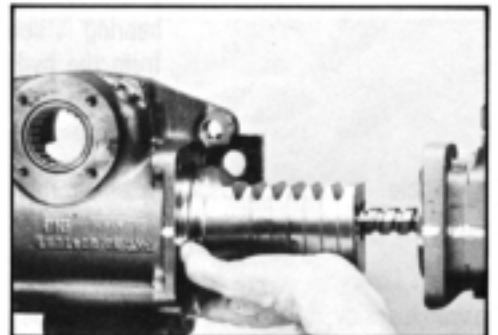

Figure 140
34. Insert the assembled rack piston (39) into housing (55) and position rack teeth to be visible through the side cover opening and the poppet (31) in line with poppet screw in the housing. As the rack piston enters the lubricated housing bore compress piston ring (39A) and work the rack piston into assembled position. SEE FIGURE 140.